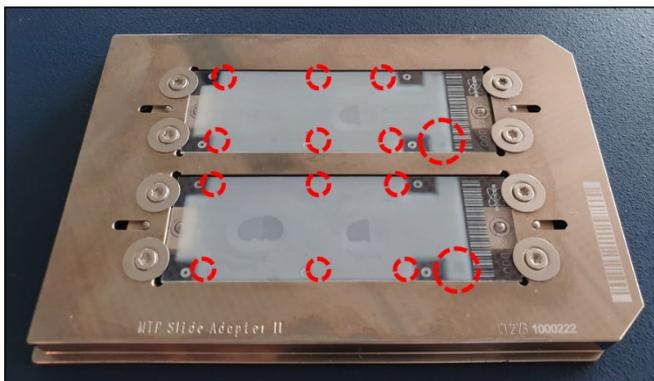

Figure 3-4 Areas that should be kept free of tissue sample
- The areas circled in red in Figure 3-4 are used for Target Height Profile Generation and Laser Focus Adjustment and should be kept free of tissue sample.